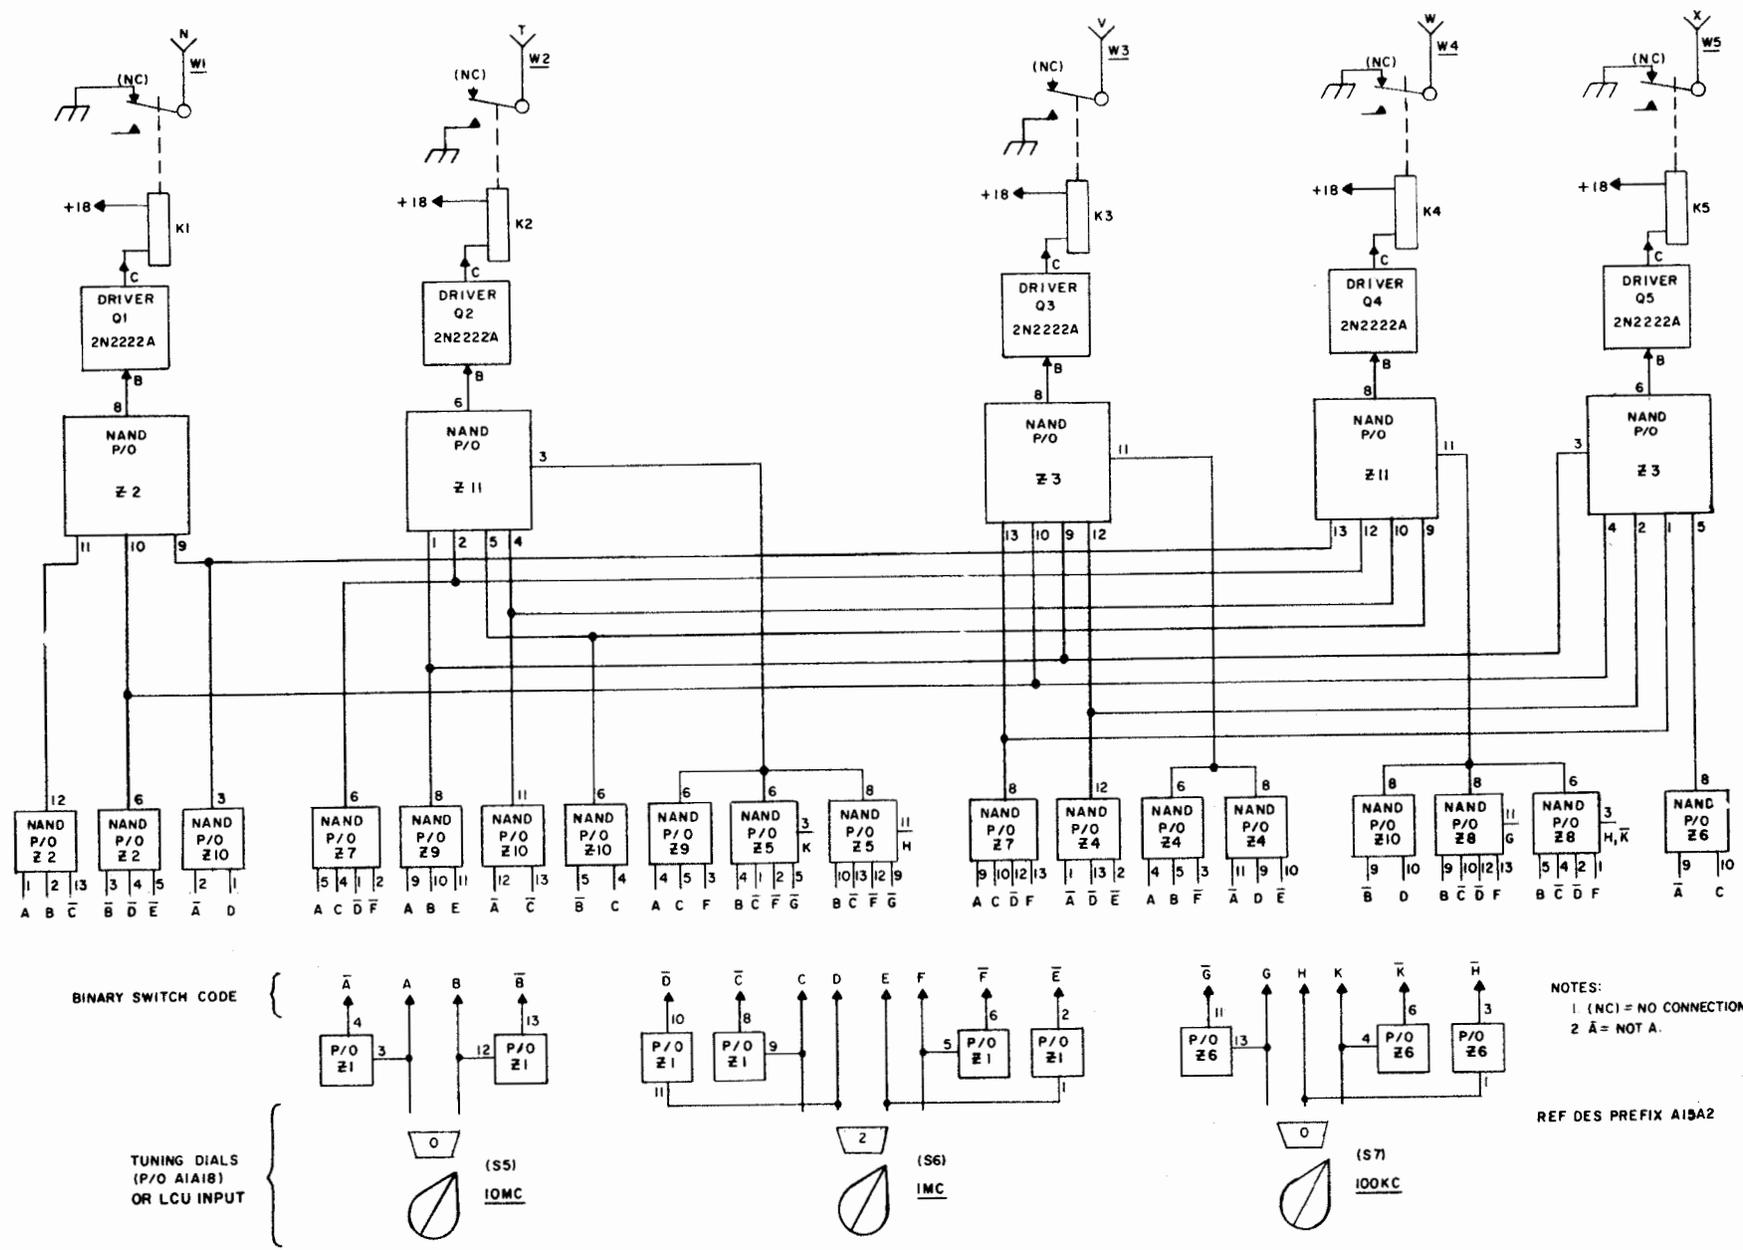
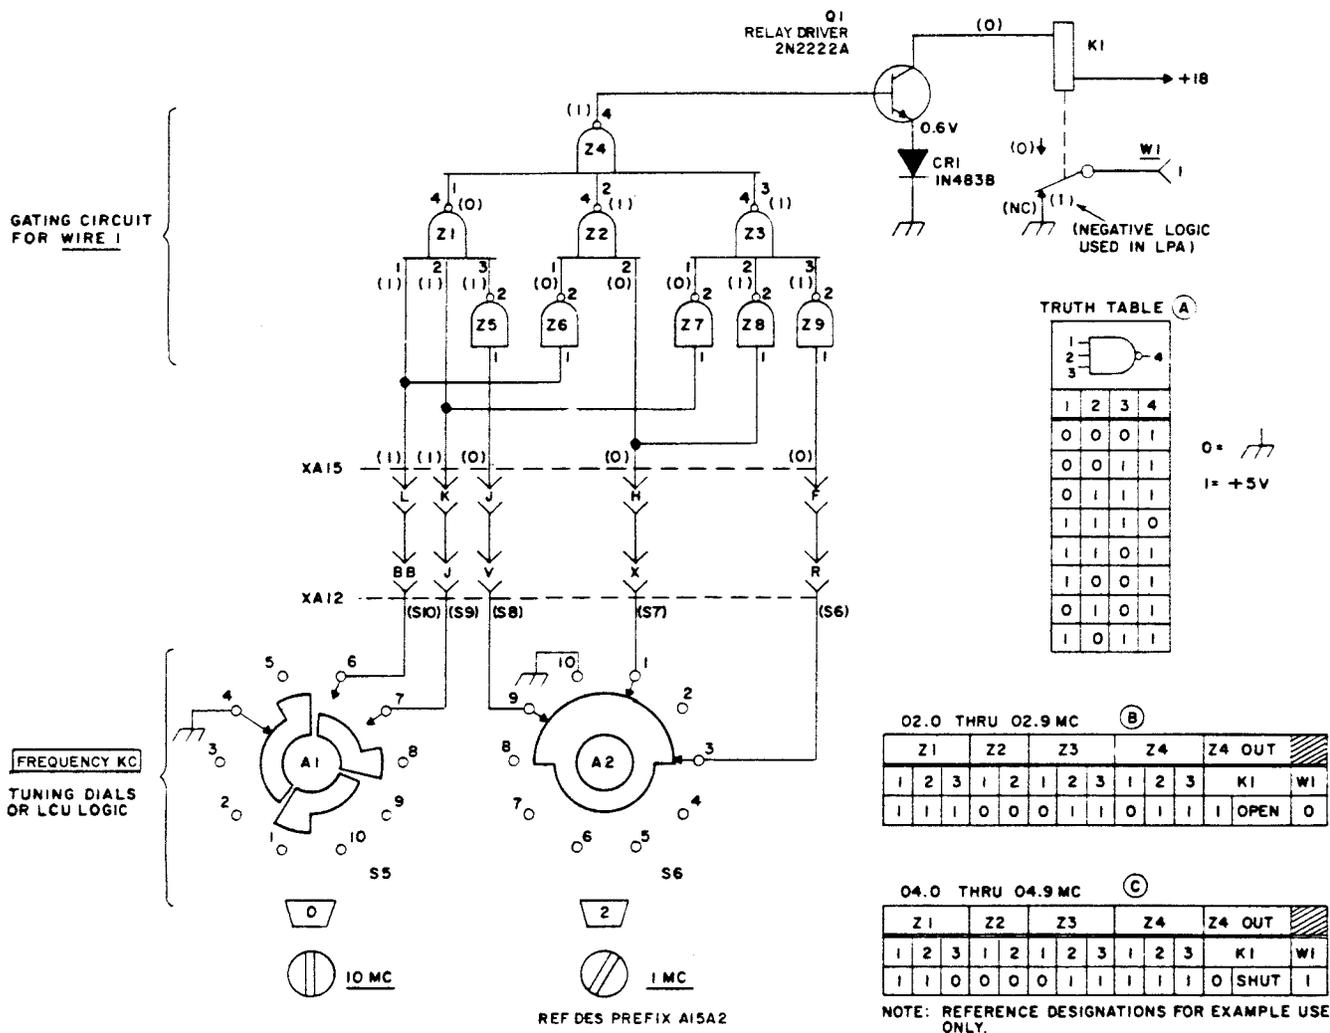

Figure 4-29. Band Encoder, Functional Block Diagram
Figure 4-30. W1 Encoder, Functional Diagram
4-25. BAND ENCODER A15. (See figures 4-29, 4-30, 4-50, and 5-81.)
(1) BAND ENCODER A15A2. (See figure 4-29.) - The band encoder receives samples of the binary switching code developed by the 10 mc, 1 mc, and 100 kc tuning logic for control of the output frequency of synthesizer A12. These inputs control 280 tuning increments in 100 kc steps over the frequency range from 02.0 to 29.9 mc. The band encoder integrates the 280 frequency increments to obtain a total of 19 frequency segments ranging from 400 kc to 1.9 mc in width for tuning the LPA. Consequently, the band encoder receives the binary position code for the frequency selected and develops a 5-wire binary code containing the 19 LPA tuning segments. Table 4-7 lists the segments and identifies the frequency settings for the 19 LPA tuning segments.
The 9-bit binary code developed by the frequency selector is converted to a 5-wire binary code representing the 19 tuning segments in the sequence listed in table 4-7. The basic block diagram of band encoder A15A2 is shown in figure 4-29. Note the relation of the IC module NAND gates with respect to the tuning dials, the five switch stages (Q1 thru
(a) W1 ENCODER CIRCUIT. (See figure 4-30.) - The band encoder circuit for wire 1 (W1) of the five-wire output code is shown in figure 4-30. Although NAND gates Z1, Z2, Z6, and part of Z10 are actually used (see figure 4-29), in the functional diagram designations Z1 through Z9 are used for simplicity and to clarify the tables in details A, B, and C.
(b) ENCODER OPERATION. (See figures 4-29 and 4-30.) - The description of NAND gate operation given in the previous paragraph also applies in general to the operation of the W2 through W5 gate circuits and energizing of relays K2 through K5, all in response to the setting of the 10 mc, 1 mc, and 100 kc tuning dials. For a selected frequency segment (channel) listed in table 4-7, there is a corresponding tuning dial binary code, the energizing of selected 5-wire relays, and a resultant 5-wire binary LPA code.